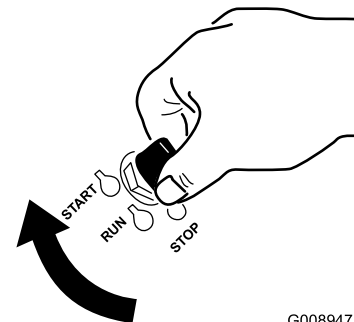

Figure 23
1. Turn the ignition key to the START position (Figure 23).